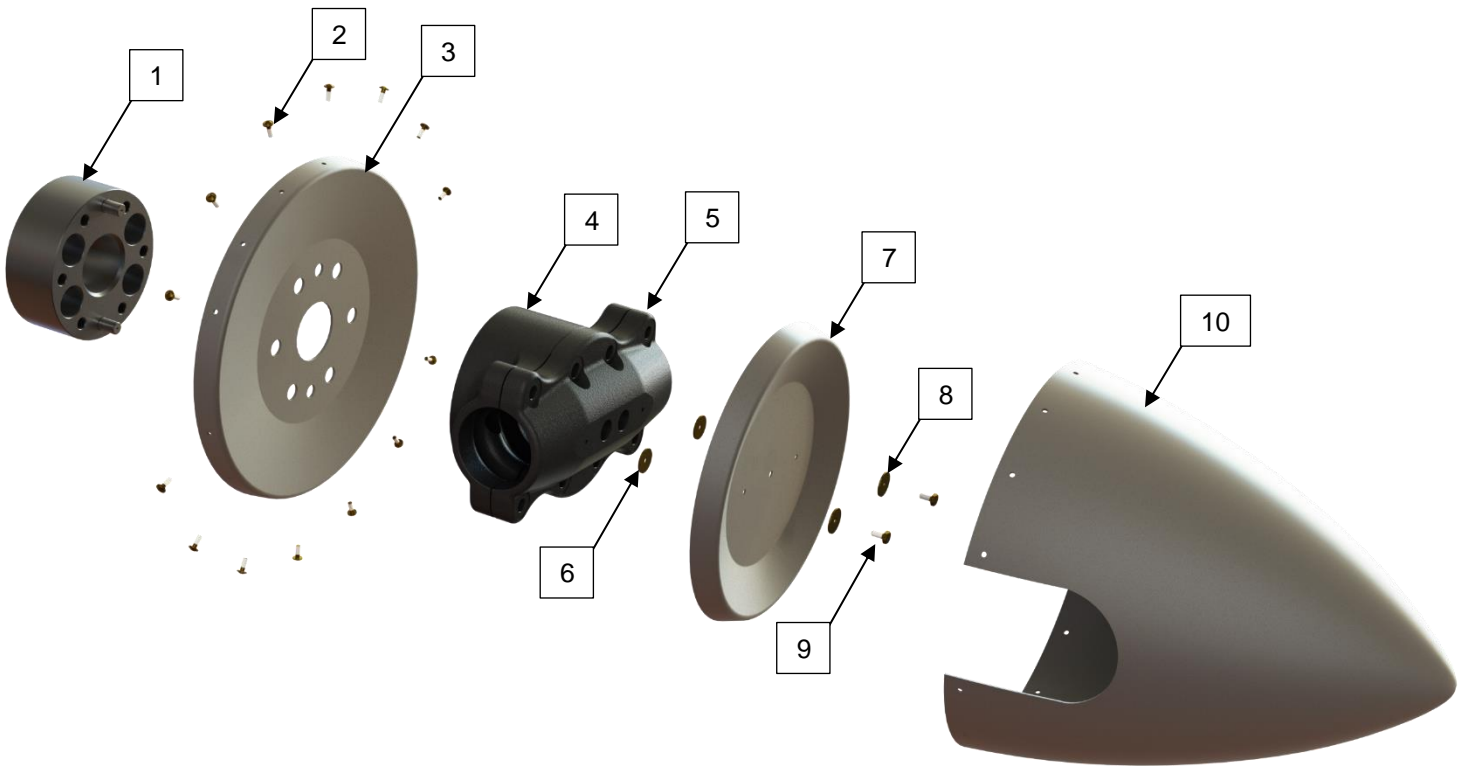

Figure 1: Spinner Assembly
1. Place spacer (if required), rear spinner bulkhead and the hub mount, as shown in **Figure 1**, on the propeller mounting flange. The hub must sit flush on the mounting flange.